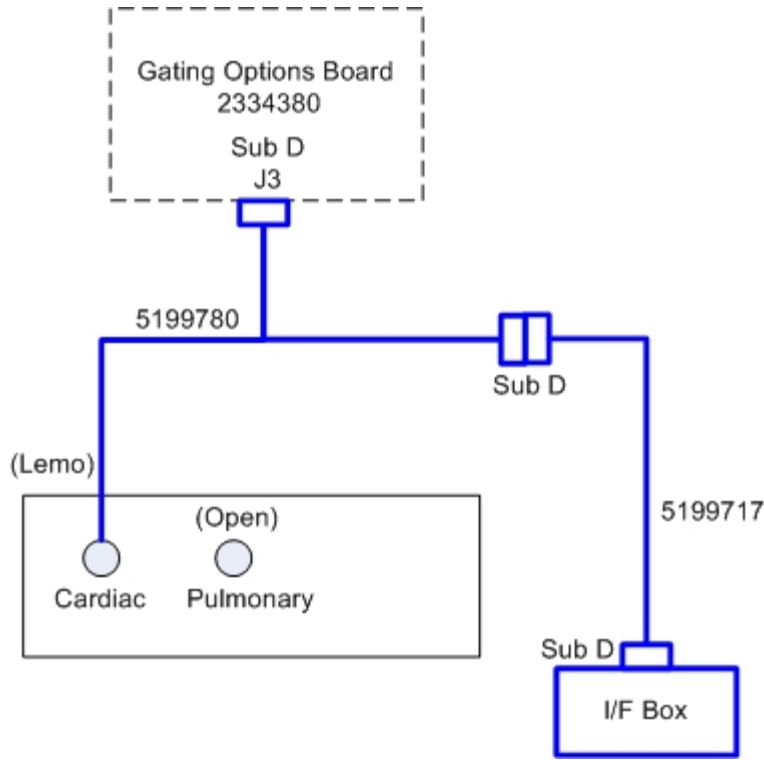

FIGURE 3-3: SINGLE GATING RPM CABLE CONNECTIONS
2. Attach cables 5199780 and 5199717 according to Figure 3-3 and 3-4.